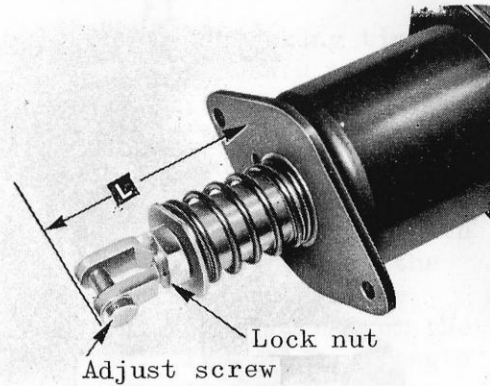

Fig. 10-112
2) After all the parts are reassembled, adjust the distance represented by L in Fig. 10-112 to 56.5mm and secure parts with the lock nut. Then mount the switch on the starter and make necessary adjustment in the following sequence.